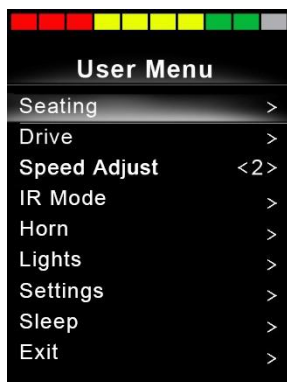

Figure 24 – Example of 'User Menu' with 'IR Mode' option.
IR mode is accessed via the user menu (see figure 24), or via several presses of the mode button, refer to item (F) on figure 1.